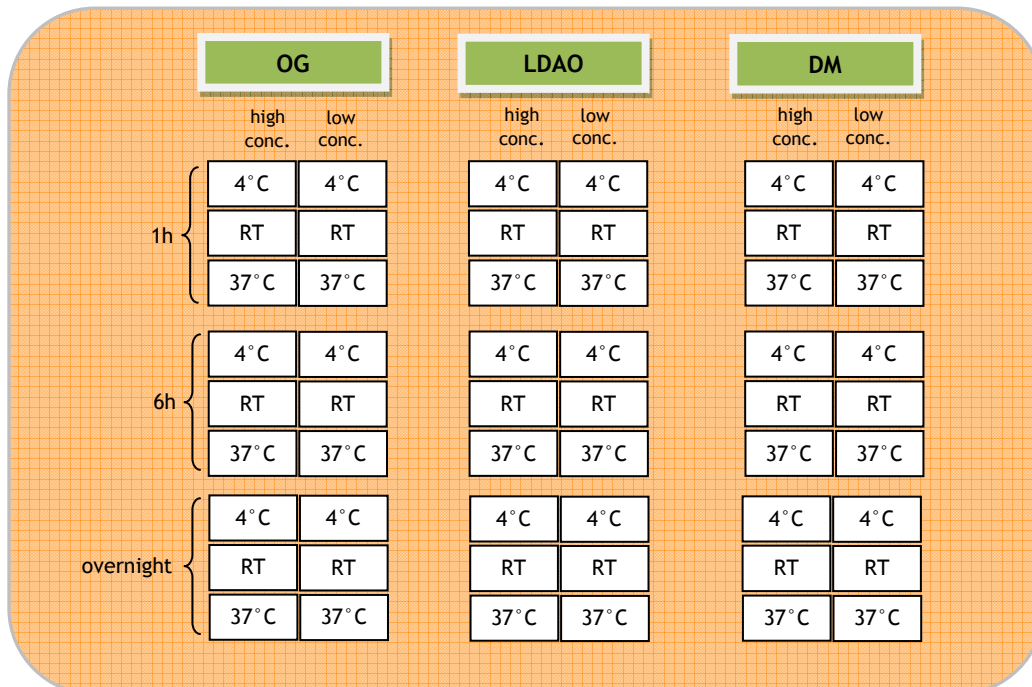

Fig. 1: Generic screen setup for solubilization detergent, concentration, temperature, and time.
This protocol delineates the screening of detergents to solubilize a membrane protein expressed in a bacterial host (see Protocol "Screening for Optimal Membrane Protein Expression Conditions Using *E. coli* Expression Systems"). The detergent concentrations provided for the solubilization and for buffers used in the purification protocol (Table 1) are a starting point and may need to be adjusted for the target protein. Likewise, parameters such as temperature and length of solubilization can also be optimized in this screen (Fig. 1). Results from the screen are analyzed by Western blot, using a detection antibody specific to the target protein or the fused tag (e.g., His, GST, rho1D4). The best detergent and solubilizing conditions, as determined with this screen, are then implemented for the purification protocol corresponding to the used affinity tag (www.genaxxon.com).
- Discard the supernatants. Label each tube with the detergent and solubilization conditions to be test (e.g., see Fig. 1).
Note: The number of microcentrifuge tubes to use depends on the number of detergents and solubilization conditions to be tested (Fig. 1 shows a generic screen setup).
13. Incubate the samples on an endoverend rotator. As a starting point, incubate for 1 h at room temperature (15-25 °C). However, other incubation times and temperatures should be screened to optimize the solubilization conditions (e.g., Fig. 1).